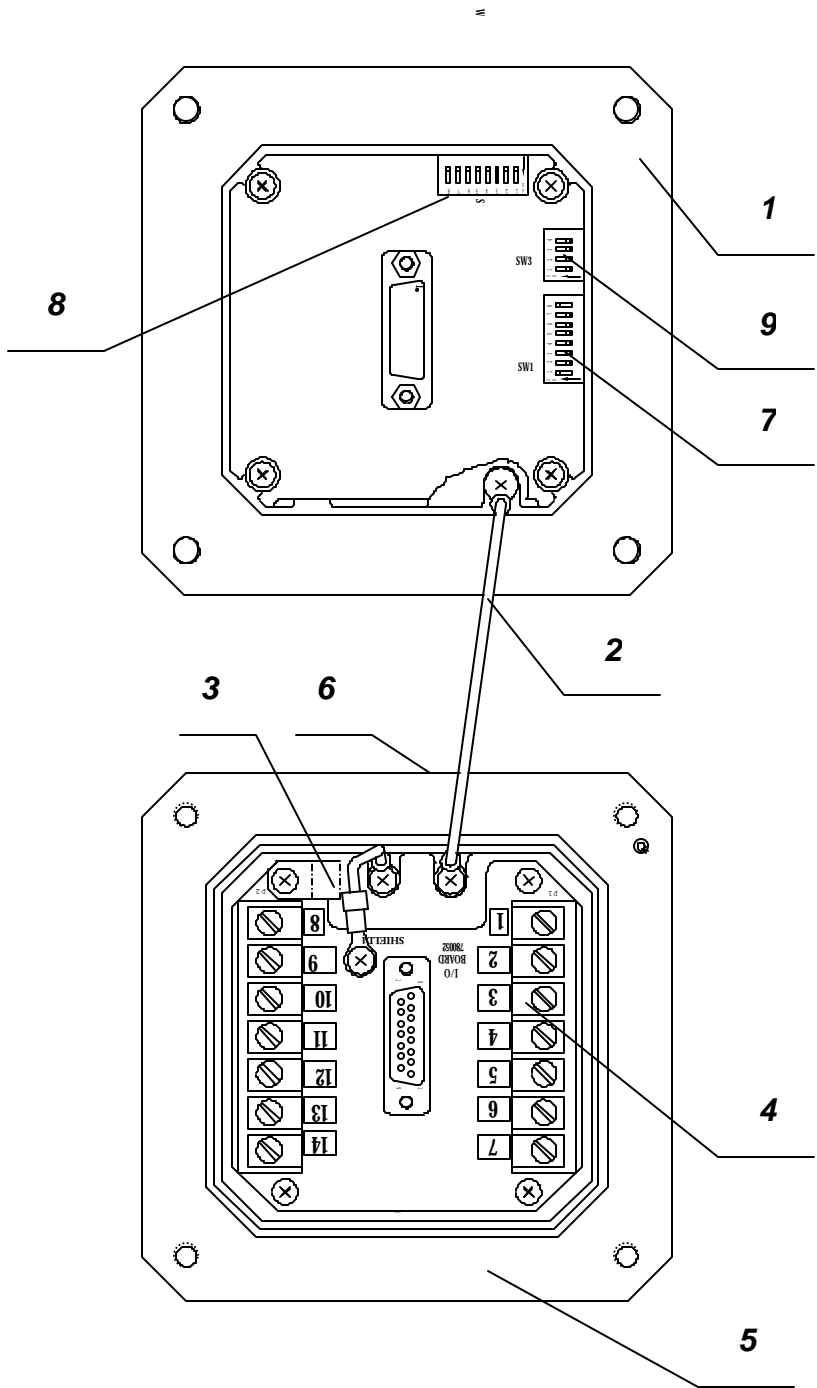

FIGURE 11: IR³ FLAME DETECTOR WITH COVER REMOVED
3	Refer to Fig. 11. Release the four (4) socket-head screws that secure the detector housing (Item 1) to its back cover (Item 5) Using HEX KEY No. 5. Hold the housing (Item 1) during the removal of the screws. With the screws removed, pull the detector housing (Item 1) from its cover (Item 5). The cover remains attached to the detector mount, the housing slides under the cover and remains attached to it by a securing cable (Item 2). The Terminal Board inside the detector cover is now revealed.
SW1 - Function switch – Fig. 11 Item 7
SW2 - Address switch – Fig. 11 Item 8
SW3 - Alarm Delay switch – Fig. 11 Item 9